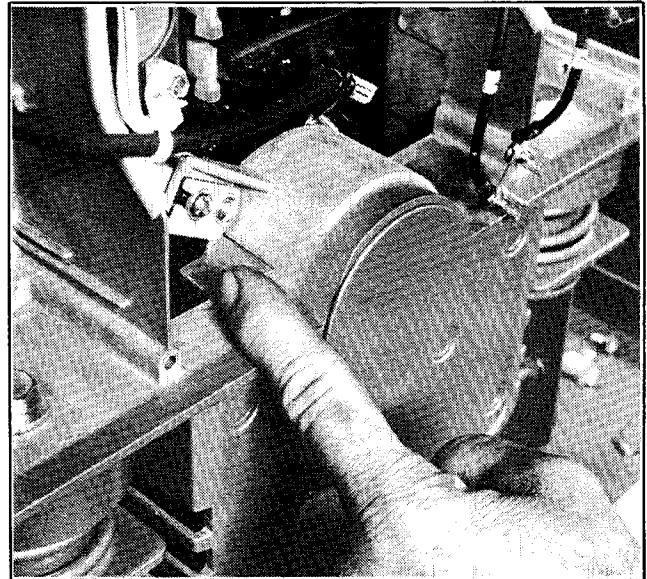

Figure 8-4. Inserting Brush Retainer
3. Lift the brushes by the leads and lock in this position by inserting a retainer wire. See Figure 8-4.